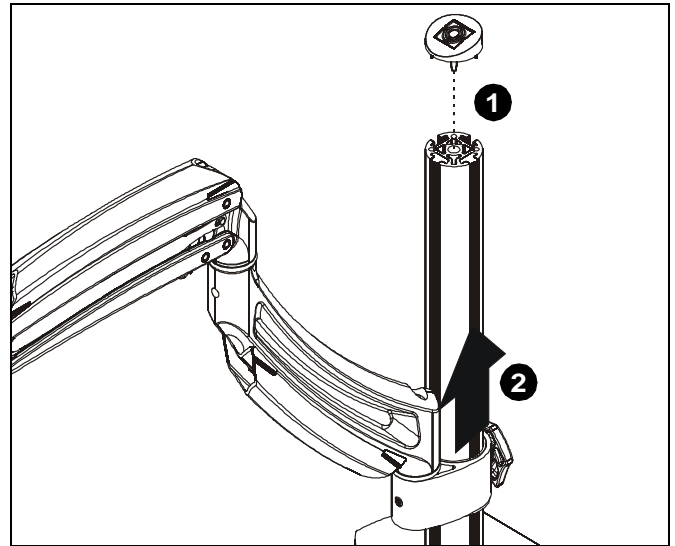

Figure 3
1. Remove top cap from column. (See Figure 3)
2. Slide mount assembly off of column. (See Figure 3)